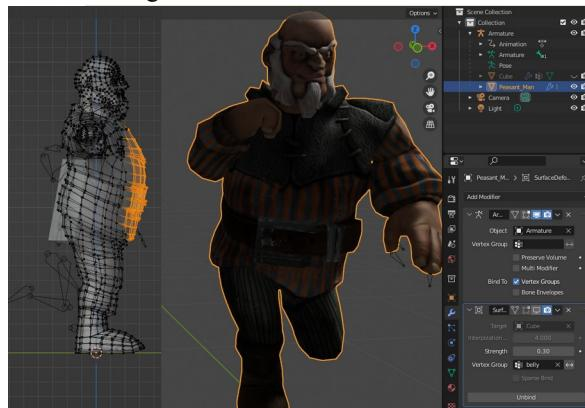

Figure 11-5 Selecting the Vertex Group for Belly Movement
- When the soft body is behaving reasonably, it doesn't need to be perfect, you should set up another modifier to transfer some of that movement onto the peasant man object. Select the character skin then enter Edit mode and, in orthographic mode with X-Ray enabled, select all the vertices in the belly area, as in Figure 11-5. Create a new vertex group called belly, but before you assign the vertices soften the edge of the selection by reducing the Weight to **0.25**, click Assign then reduce the size of the selection by pressing **Select ▶ Select More or Less ▶ Less**, or use the shortcut **CTRL-MINUS**, then change the Weight to **1.0** and assign the vertices.
image in Figure 11-5 shows the two views superimposed; with and without the modifier.